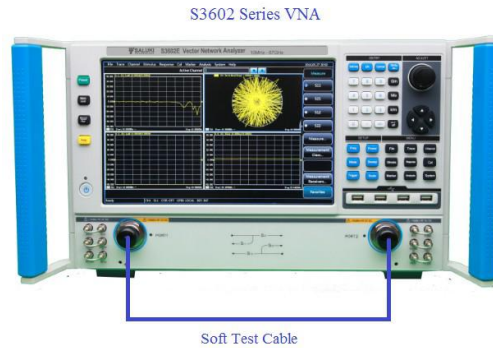

Fig. 11.7 Block Diagram of System Trace Noise Test
- 1) As shown in Fig. 11.7, connect the system and preheat is for 60min at least.